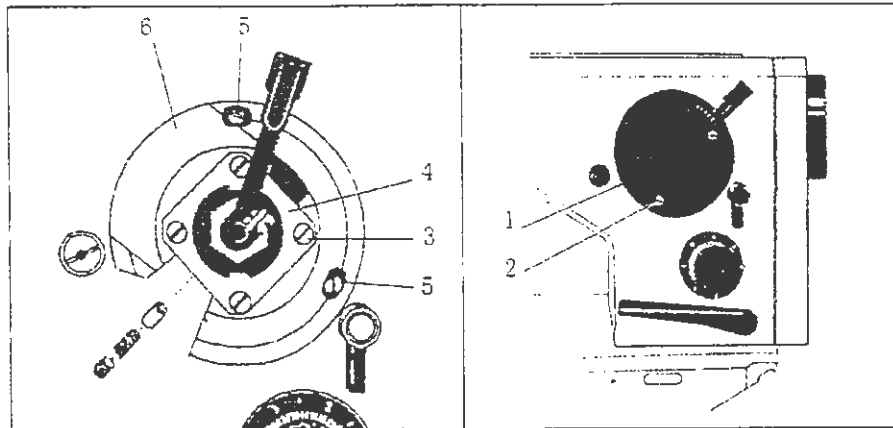

Fig.19
2) The needle punches transversely into the center of the needle plate slot position adjustment (Fig.19)
28. The needle base point offset adjustment(Fig.19)